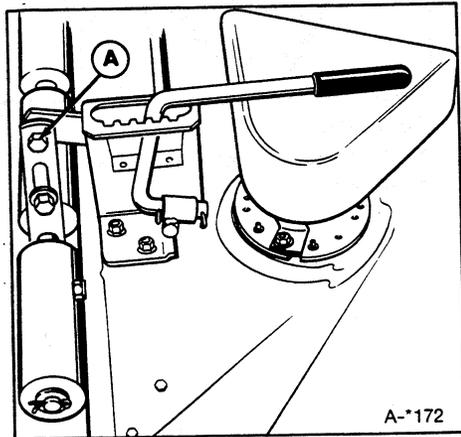

**Figure 35. Mower Hitch (shown removed from tractor)**
6. Loosen the cap screw (A, figure 35) and flange nut (B) in the right mower hitch.
8. Retighten the capscrew and flange nut (B, figure 35). Torque capscrew (A) to 50 ft. lbs. Torque nut (B) to 65 ft. lbs.